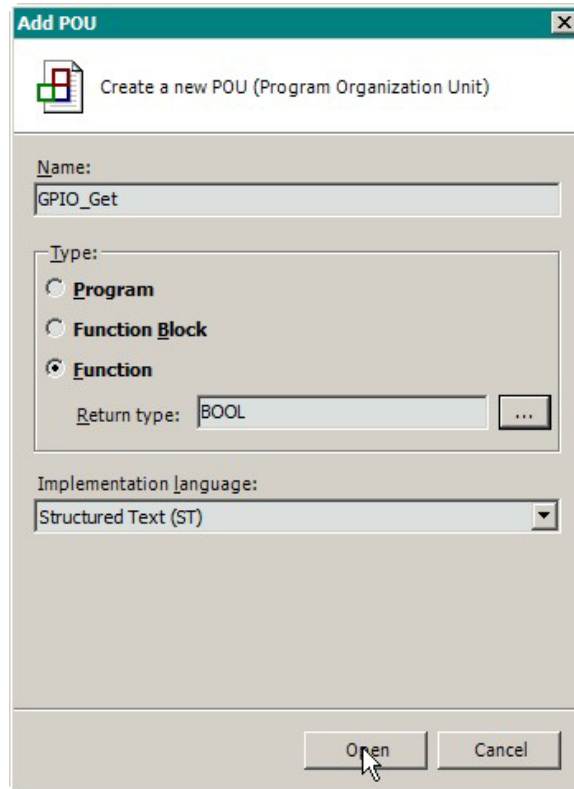

Figure 11. Creating the *GPIO\_Get* function
6. Enter the name *GPIO\_Get* in the **Name** field, select **Function** in the **Type** group, specify *BOOL* as a return type for the function in the **Return type** field, and select *Structured Text (ST)* in the **Implementation Language** combo-box as shown in Figure 11 and then click **Open**.